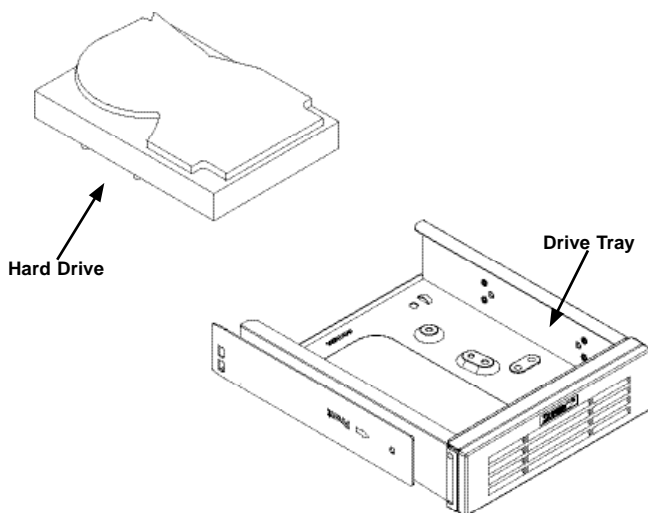

Figure 6-7. Add a Hard Drive to the Drive Tray
4. Place the hard drive in the drive tray. The hard drive may not completely fill the tray (Figure 6-7).
4. Remove the rails from the drive tray by removing two screws from each side. (Figure 6-7)